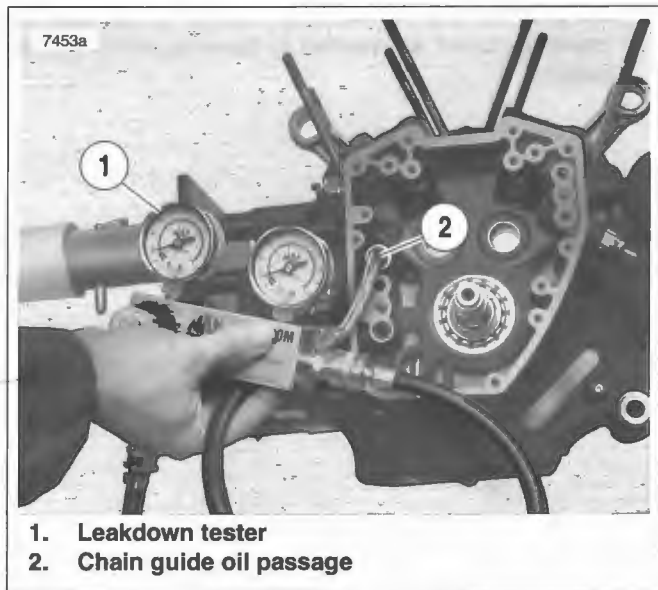

Figure 3-74. Leakdown Test
17. See Figure 3-74. Remove screen and O-ring from chain guide oil passage (2). Perform leakdown test to verify proper assembly.